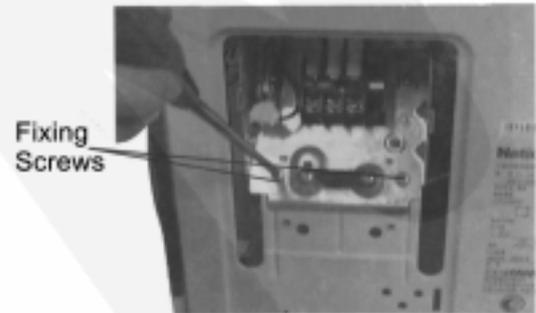
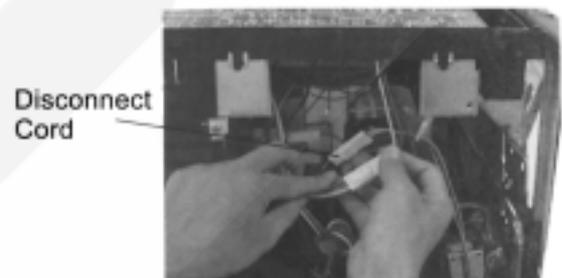

Fig 16
Fig 17
2. Release three fixing screws of C-BOX and all connectors and the C-BOX can be replaced. (Fig 15 , Fig 16 , Fig 17 , Fig 18)